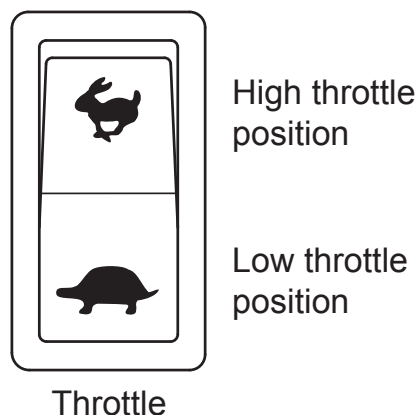

Figure 70. Engine Speed Switch
Place the Engine Speed Switch in the low throttle position  and start the machine (see Figure 70).
8. Place the Engine Speed Switch in the high throttle  position. This will increase the engine RPM and the speed of the machine (see Figure 70).